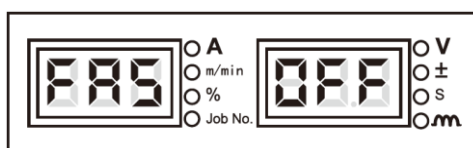

Figure 3-35 Screen for FA5 display
1. Enter the internal menu, adjust the knob on the panel of welding power source to **FA5**, the digital tubes will display as shown in Figure 3-35.